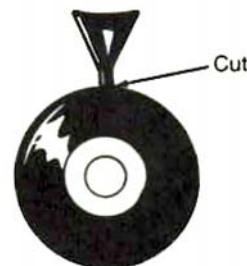

Figure 10
7.3 Trim off excess compound from filler spout by cutting off at base. (Figure 10)